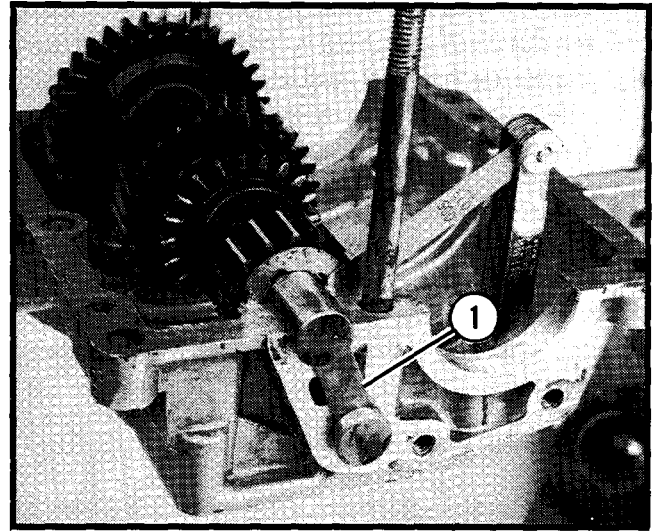

Figure 15.
12. Install countershaft and reverse idler shaft lock-plate. The lock-plate must be centered. See Figure 15.